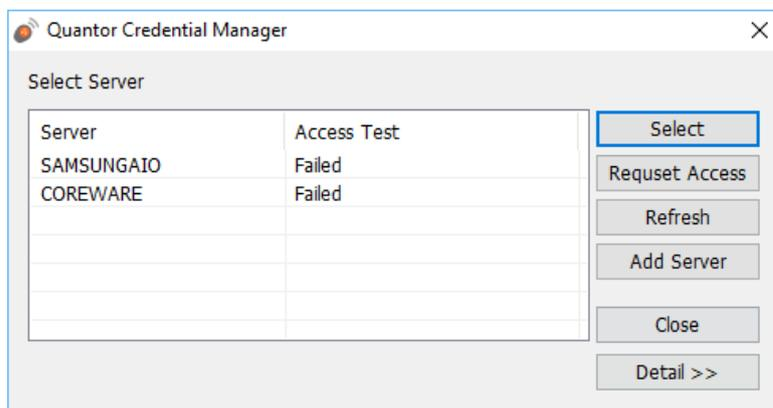

Figure 2.19 Server List
2. Once server search is completed, the Server List appears as shown in Figure 2.19.